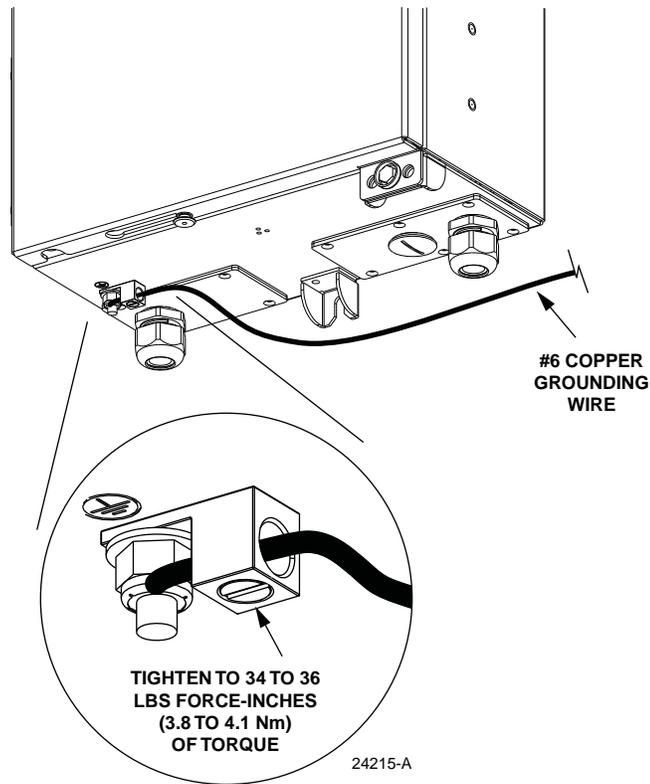

Figure 9. Grounding Wire Connection To Cabinet
1. Locate the cabinet grounding lug which is mounted on the underside of the cabinet as shown in Figure 9.